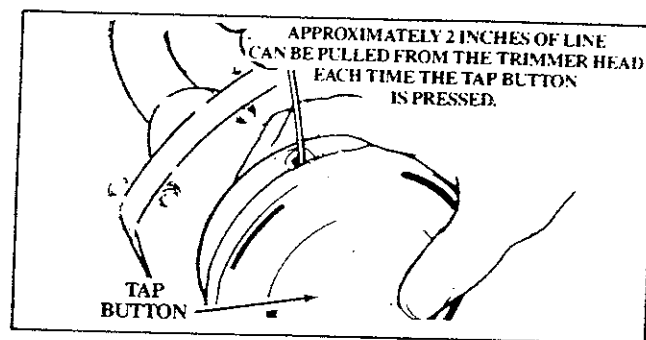

Figure 20
- h. Pull on the line to change the spool from the locked position to the operating position. Figure 20.
NOTE: Each time the tap button is pressed, approximately 2 inches of line can be pulled from the trimmer head. Figure 20.